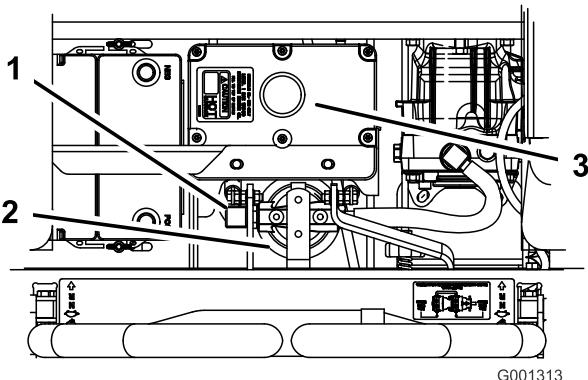

Figure 71
4. Remove the righthand hydraulic line that comes into the adapter (Figure 71).
6. Install the righthand hydraulic line to the adapter (Figure 71).